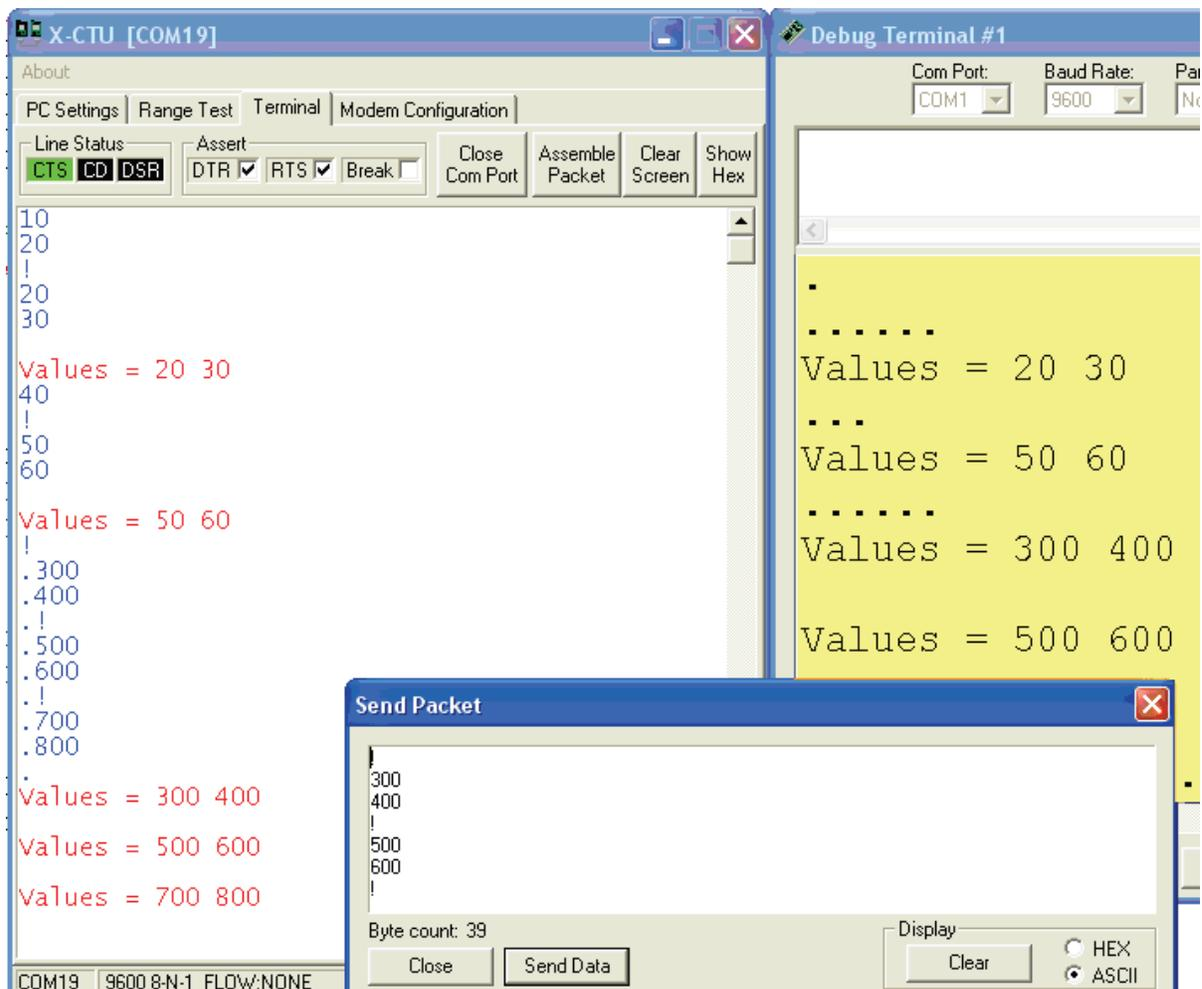

Figure 4-7: Using RTS for Decimal Values Testing
- ✓ Use the Send Packet window to make a series of numbers and `!`'s to be sent, and test. Notice in Figure 4-7 each set of data following the delimiter was correctly processed.